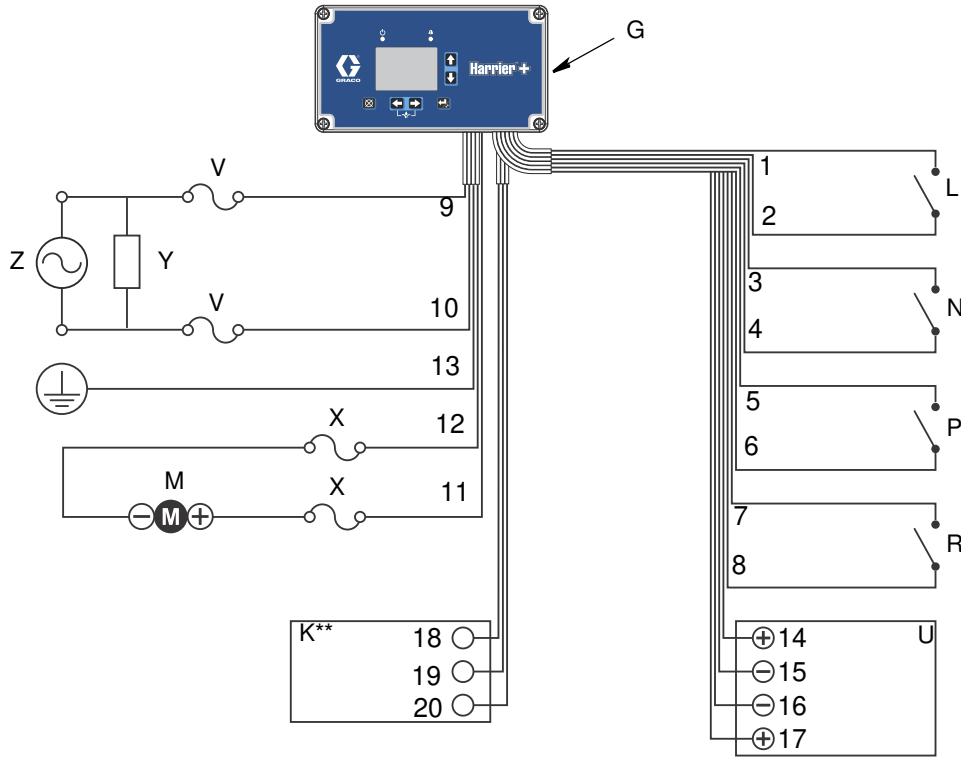

FIG. 4 Typical 240 VAC Installation
FIG. 4 is an example of 240 VAC installation. Your installation may differ from what is shown here. The Harrier+ controller (G), with wiring, is supplied by Graco. All other components are supplied by the customer. Contact your Graco distributor for assistance in planning a system to suit your needs.